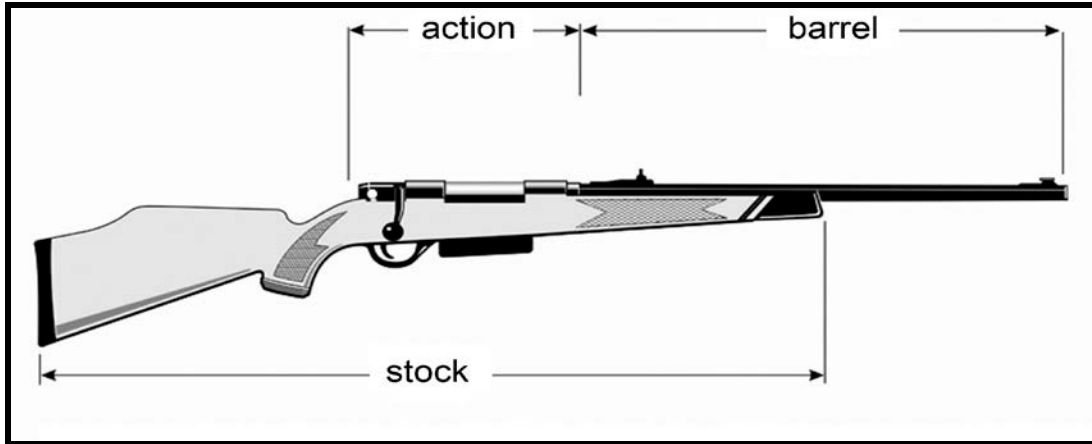

Figure 12. Bolt-action rifle
- b. Modern firearms consist of three major parts: the barrel, the action and the stock (figures 12 and 13).